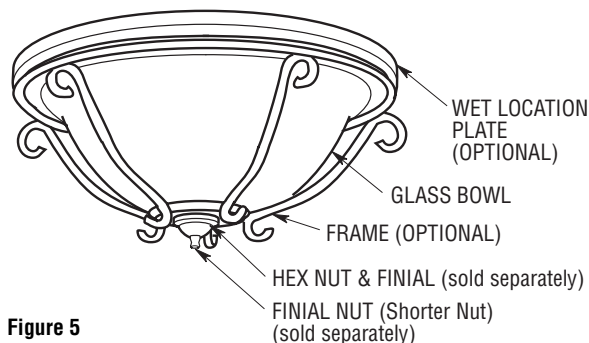

Figure 5
15. **If installing an optional frame:** Gently slide the frame over the glass bowl then secure the frame to the light fixture by placing the hex nut, finial and shorter finial nut (both sold separately) onto the threads of the light fixture. Tighten the shorter finial nut onto the threaded light fixture (Figure 5).